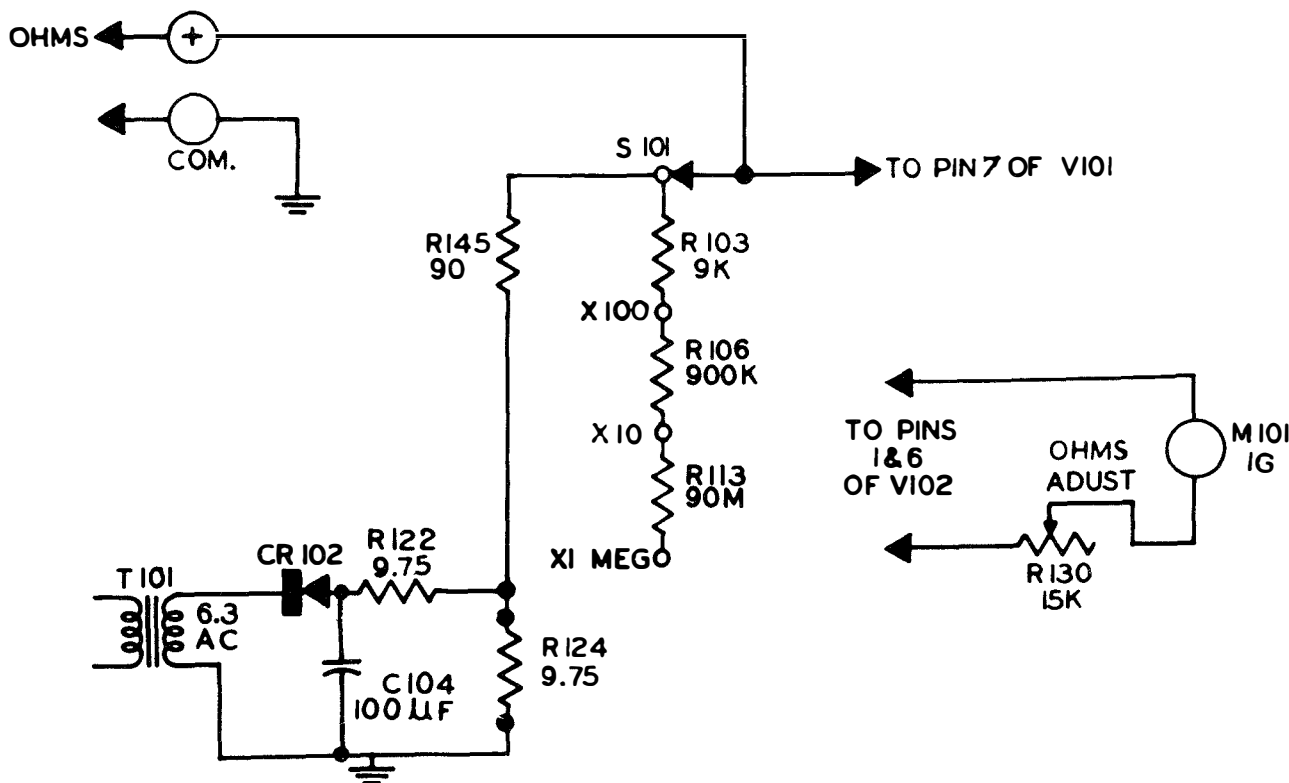

Fig. 2-6. OHMMETER CIRCUIT
e. OHMMETER CIRCUIT. (See Fig. 2-6)
The OHMS-MILS-AC VOLTS probe and the COMMON leads are used for resistance measurements. See Figure 2-6.